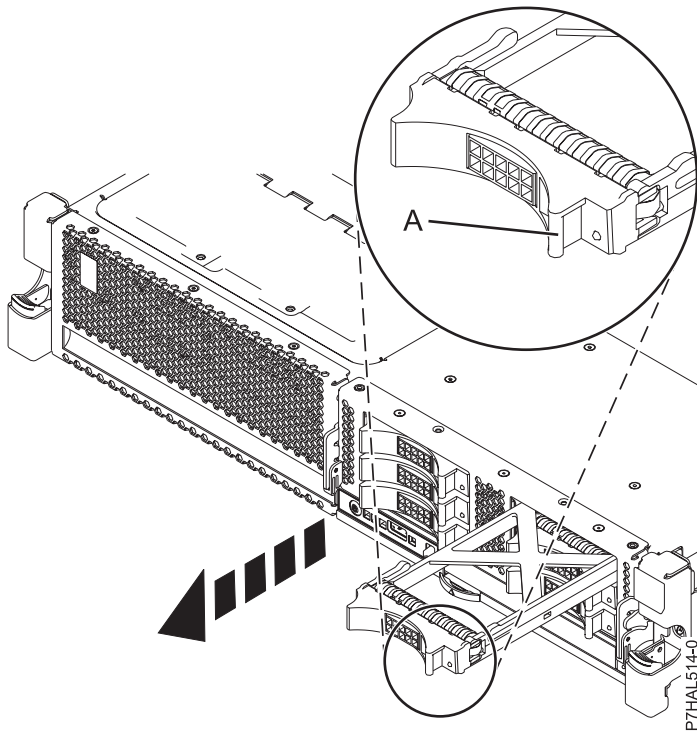

Figure 59. Removing a disk drive filler
3. Hold the filler handle **(A)** and pull out the disk-drive filler from the slot, as shown in Figure 59 on page 90.